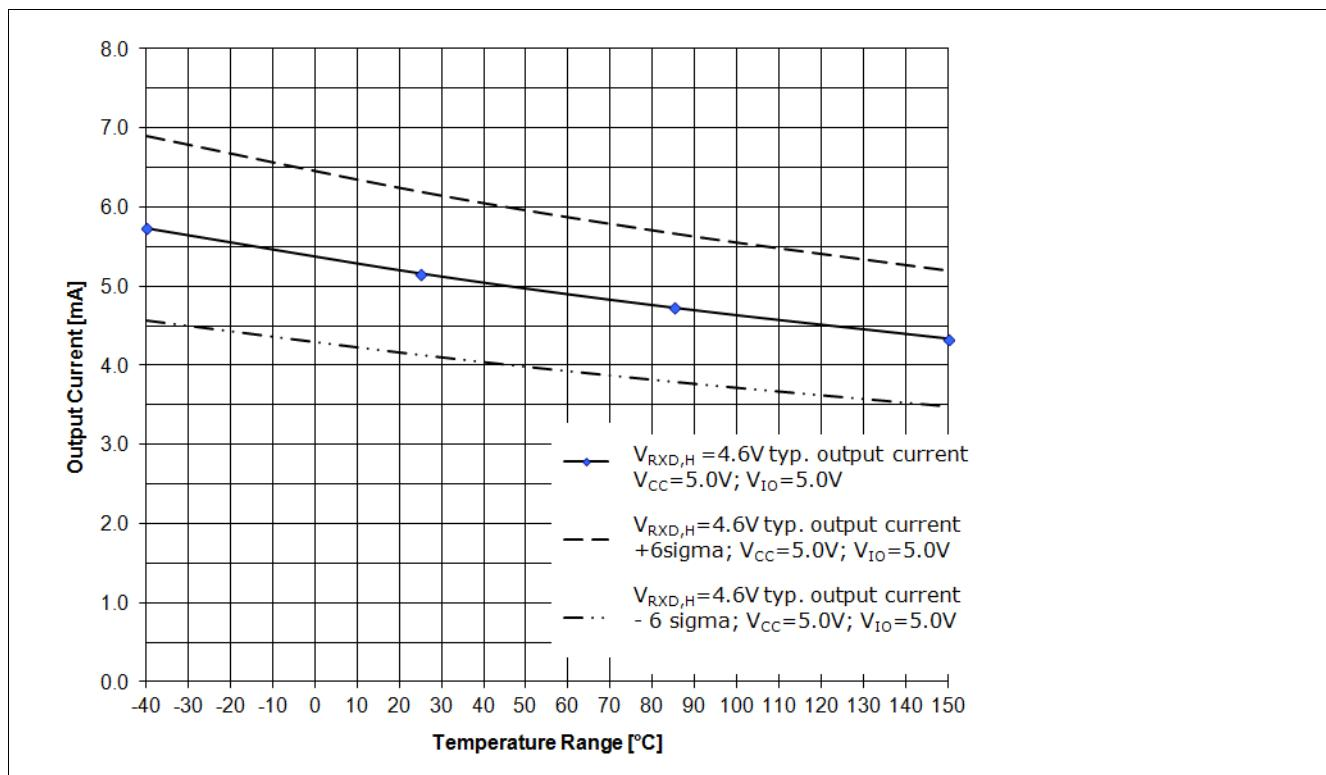
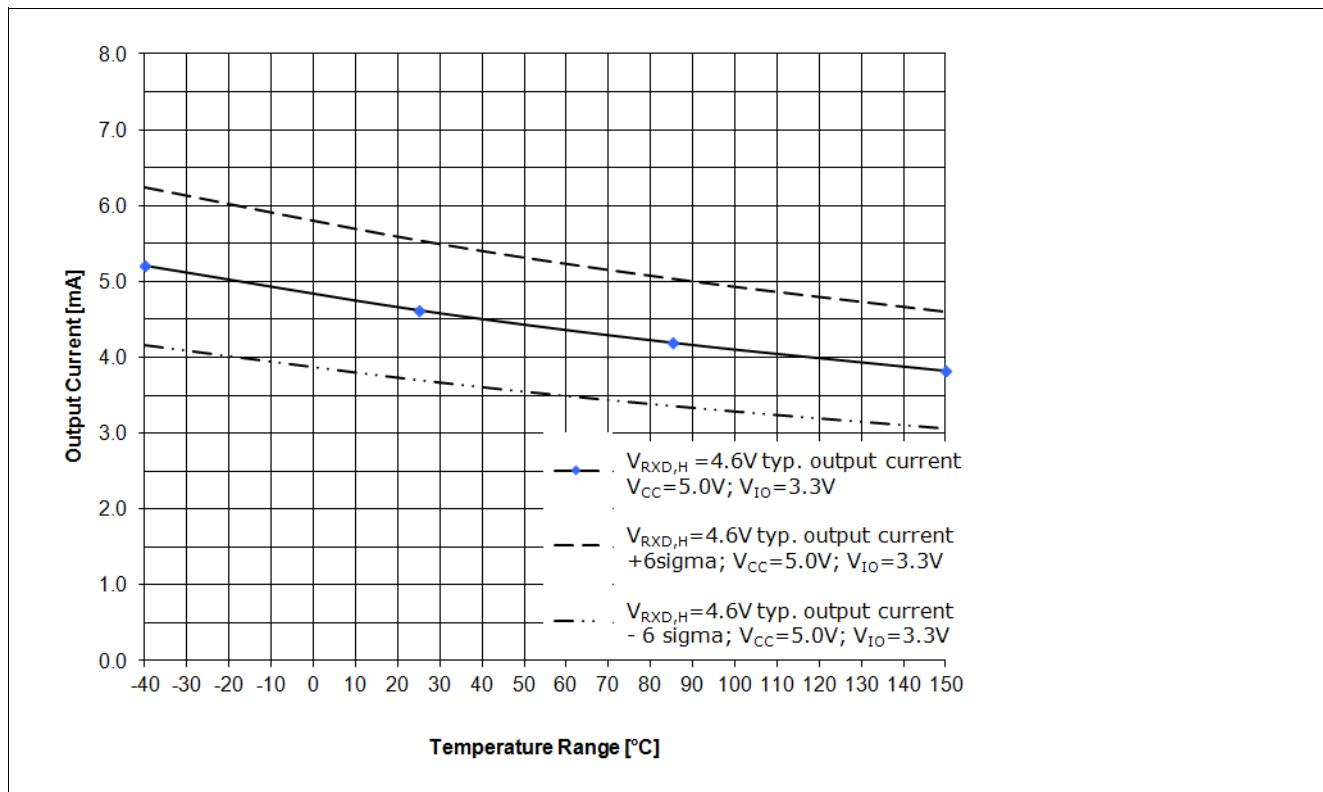

Figure 11 RxD Output driver capability for a logical “High” signal $V_{RXD,H}=4.6$ V, $V_{CC}=5.0$ V, $V_{IO}=5.0$ V¹⁾
Figure 12 RxD Output driver capability for a logical “High” signal $V_{RXD,H}=4.6\text{ V}$, $V_{CC}=5.0\text{ V}$, $V_{IO}=3.3\text{ V}$ ¹⁾
The diagram in Figure 11 shows the output current capability of the RxD output pin depended on the chip temperature T_J at a V_{IO} power supply of 5.0 V. Figure 12 shows the output current capability of the RxD output pin at a V_{IO} power supply of 3.3 V.
- The curve “VRxD,H = 4.6 V; typ. output current; VCC = 5.0 V; VIO = 5.0 V;” displays the typical output current at the RxD output pin of the TLE8250GVIO (see Figure 11).
- The curve “VRxD,H = 4.6 V; typ. output current + 6 sigma; VCC = 5.0 V; VIO = 5.0 V;” displays the expected maximum value of the output current at the RxD output pin (see Figure 11).
- The curve “VRxD,H = 4.6 V; typ. output current - 6 sigma; VCC = 5.0 V; VIO = 5.0 V;” displays the expected minimum value of the output current at the RxD output pin (see Figure 11).
- The curve “VRxD,H = 4.6 V; typ. output current; VCC = 5.0 V; VIO = 3.3 V;” displays the typical output current at the RxD output pin of the TLE8250GVIO (see Figure 12).
- The curve “VRxD,H = 4.6 V; typ. output current + 6 sigma; VCC = 5.0 V; VIO = 3.3 V;” displays the expected maximum value of the output current at the RxD output pin (see Figure 12).
- The curve “VRxD,H = 4.6 V; typ. output current - 6 sigma; VCC = 5.0 V; VIO = 3.3 V;” displays the expected minimum value of the output current at the RxD output pin (see Figure 12).